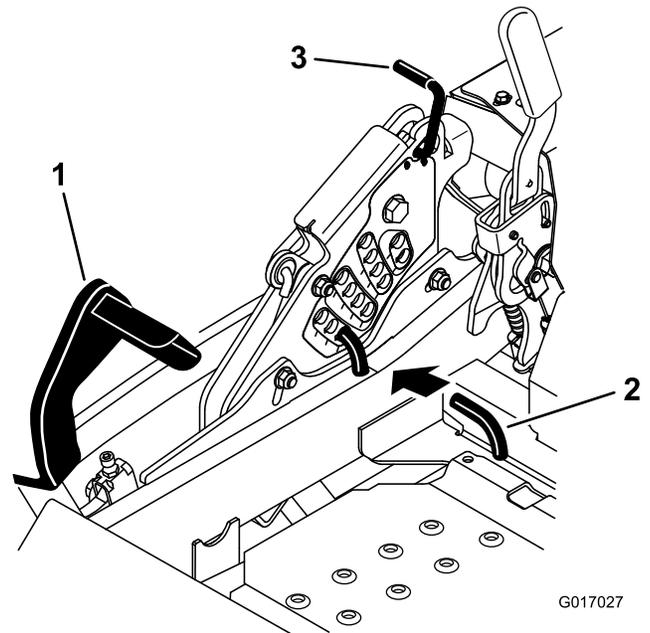

Figure 84
5. Push the deck-lift pedal all the way forward and the deck will latch at the 14 cm (5-1/2 inch) transport position (Figure 84).